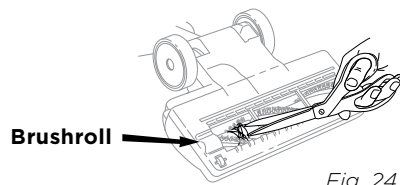

Fig. 24
- 2 Inspect the brushroll and the opening on the bottom of the nozzle. Remove any built-up debris. Use scissors to carefully cut anything wound around the brushroll. Avoid damaging or cutting the bristles. **(Fig. 24)**